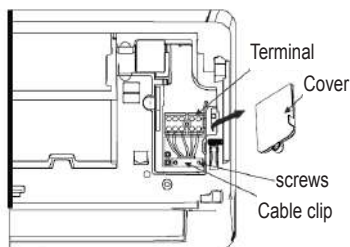

fig. 15 -
1. Open the front panel of the unit ("fig. 15 -")